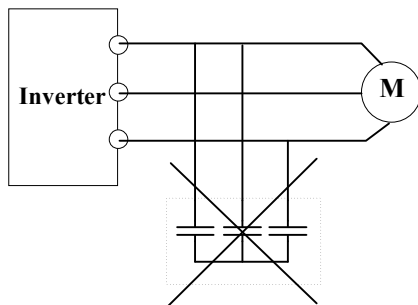

Fig 1-6 Capacitors are prohibited to be used.
- Do not connect any varistor or capacitor to the output terminals of the drive, because the drive's output voltage waveform is pulse wave, otherwise tripping or damaging of components may occur; in addition, do not install circuit breaker or contactor at the output side of the drive as shown in Fig 1-6.